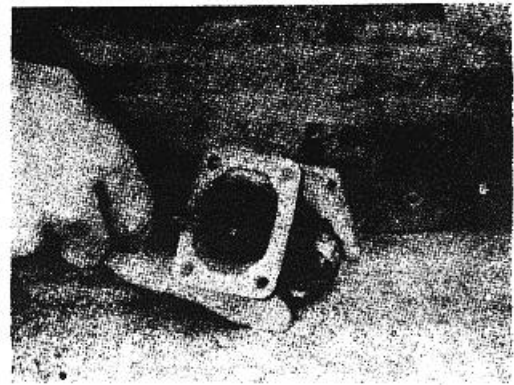

Figure 4-52. Install setscrew.
3. Install the throttle shaft setscrew and stake in place. Fig. 4-52.